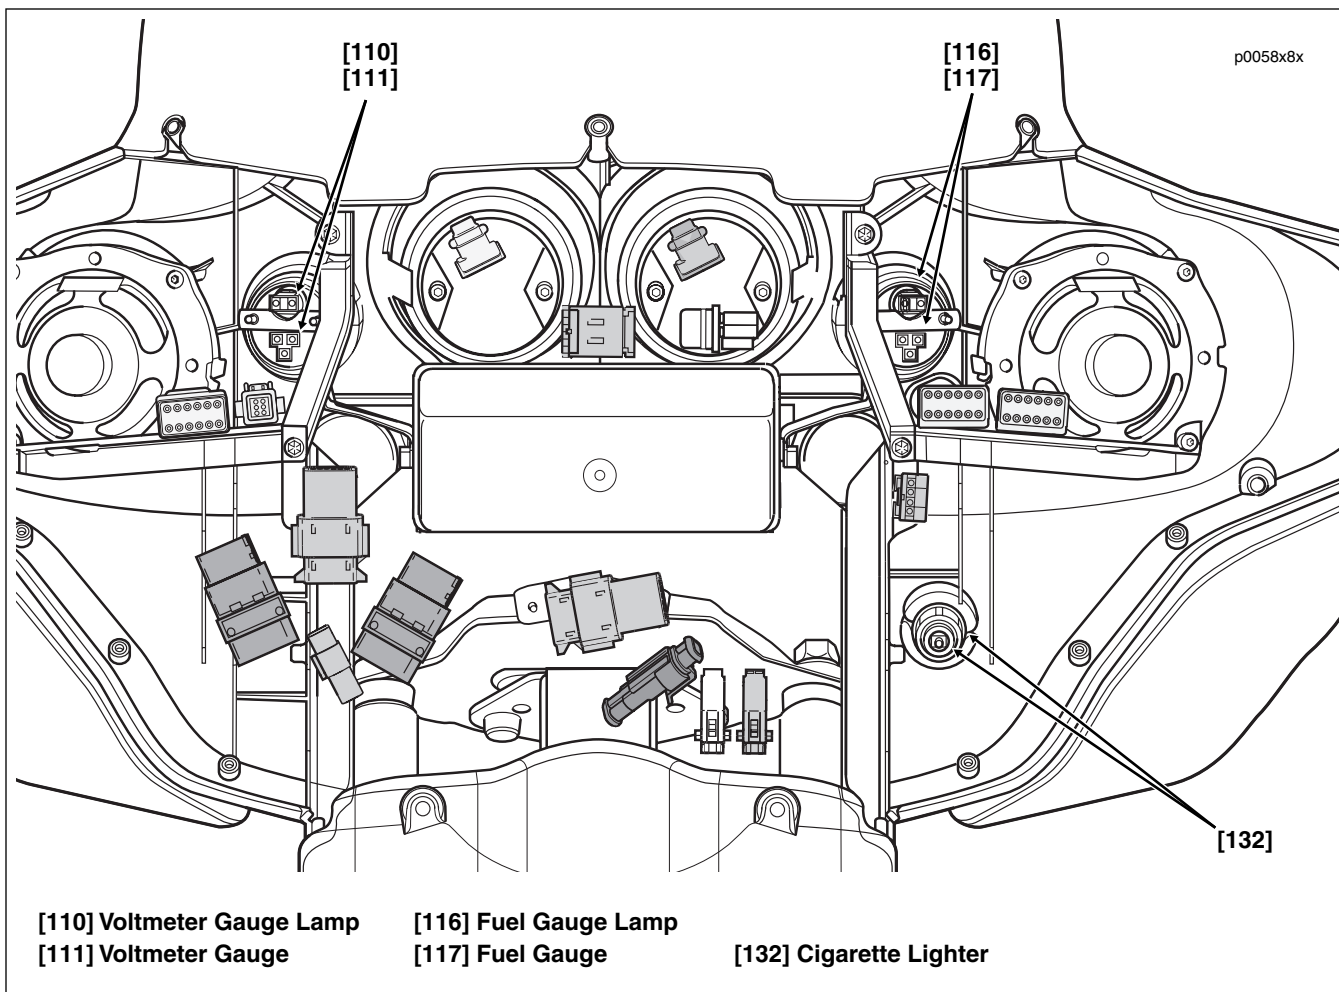

Figure 6. Inner Fairing - Interconnect Harness Connectors (FLHTPI)
8. See Figure 6. Remove connectors from spade contacts as follows:
4. See Figure 6. Install connectors onto spade contacts as follows: